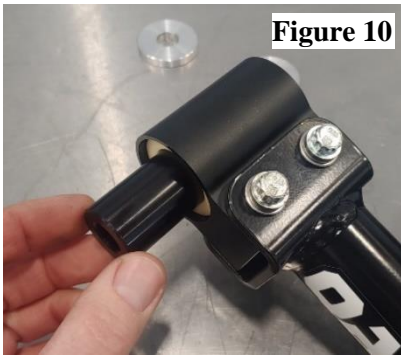

Figure 10
9. Insert one black aluminum sleeve into each bushing mount. **(Figure 10)**